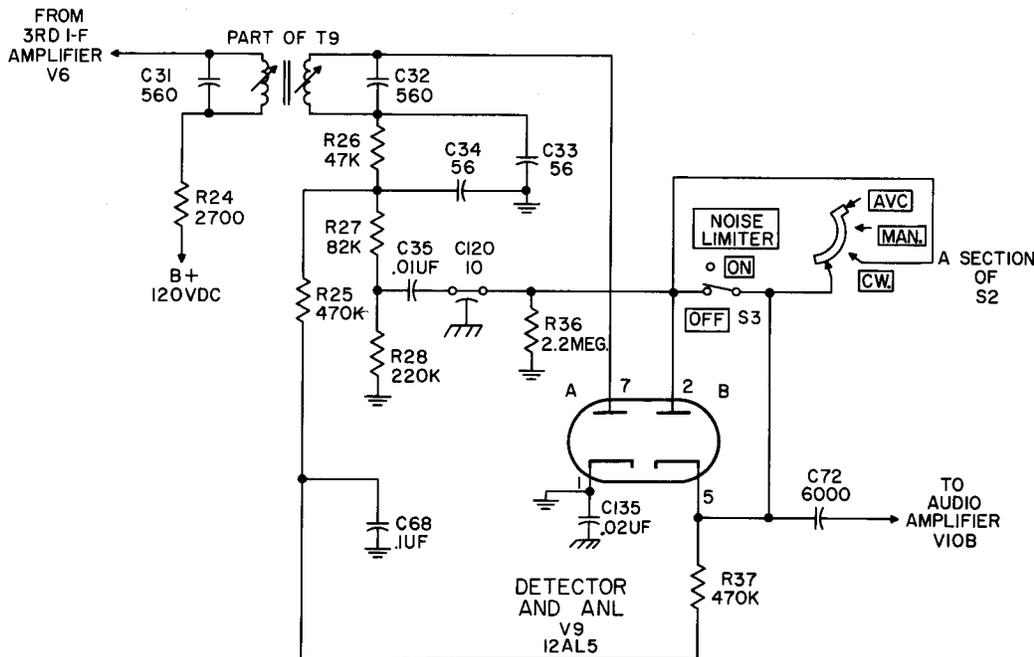

Figure 2-9. Detector and ANL Simplified Schematic Diagram
b. DETECTOR AND AUTOMATIC NOISE LIMITER. (Figure 2-9)
(1) The i-f signal from the 3rd i-f amplifier is demodulated by the detector stage. Noise pulses are clipped prior to being fed to the audio stages of the receiver by the automatic noise limiter (ANL) stage when the noise limiter circuit is operative. These two stages are discussed together since they are closely related.
(2) The i-f signal is inductively coupled to the plate (pin 7) of the detector (V9A) by the secondary of T9. Diode action causes a flow of rectified current through the detector load resistors R26, R27, and R28. Resistor R26 and capacitors C33 and C34 provide a low-pass filter to shunt i-f signals to ground. Resistors R27 and R28 form a voltage divider network. The audio voltage developed across R28 will be applied directly to audio amplifier V10B if the AVC-MAN. -CW. switch S2 is in the CW. position or if the NOISE LIMITER switch S3 is set to OFF. If switch S2 is rotated to AVC or MAN. position and if the NOISE LIMITER switch is set to ON, the ANL stage (V9B) will be placed in series with the detector output and the audio amplifier V10B. The plate (pin 2) of the ANL stage is normally less negative than its cathode due to current flow through R27, R28 and R36.
(3) During periods of normal operation, the long time constant of resistor R25 and capacitor C68 hold the cathode at a constant voltage level. The plate voltage follows the signal voltage developed across R28; current flow through the ANL tube follows the audio voltage output of the detector stage. The voltage appearing across cathode resistor R37, R25, R27 and R28 is applied to the audio amplifier stage through coupling capacitor C72.
(4) A sudden noise pulse appearing at the junction of R27 and R28 will cause the plate (pin 2) to swing negative with respect to the cathode since the long time constant of R25 and C68 prevents the cathode from also swinging negative immediately. The noise pulse will cutoff V9B for the duration of the noise pulse. An increase in average modulation level will not be blocked